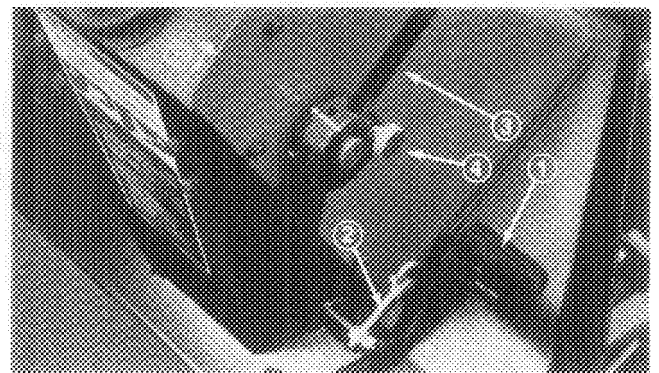

Figure 16
Traction Pedal (Fig. 16) – Controls forward and reverse operation. Depress top of pedal to move forward and bottom to move backward. Ground speed depends on how far pedal is depressed. For no load, maximum ground speed, fully depress pedal while throttle is in FAST. For maximum power under load or when going uphill, keep engine rpm high by having throttle in FAST and traction pedal partially engaged. If engine rpm begins to decrease due to load, gradually reduce traction pedal pressure until engine speed is increased.
Speed Selector (Fig.16) - Cam lever at side of traction pedal can be rotated to maintain desired speed. Rotating lever forward decreases speed and backward increases speed.
Axle Shift Lever (Fig. 16) – Located on right side of console, lever selects front drive mode. Pull out lockout knob, move lever rearward for mowing operation and forward for transport operation, then release knob to lock selection. Lever must be in LO position to mow. Middle position (N) is for towing.